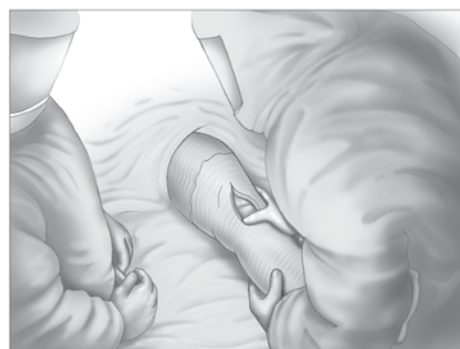

Figure 59
Step 1: Perform a trial reduction and assess stability of the joint both in flexion and extension (Figure 59). If the flexion and extension gaps are loose during trial reduction with a 15mm tibial insert trial, PTS can be combined with the 9, 11, 13 or 15mm tibial insert trial for 17mm to 23mm gaps (Table 1). Select the PTS trial that corresponds with the Optetrak Logic tibial insert trial size being used. For example, if a Size 3 tibial insert trial is being used, an 8mm Optetrak PTS Trial, Size 3 must be selected.